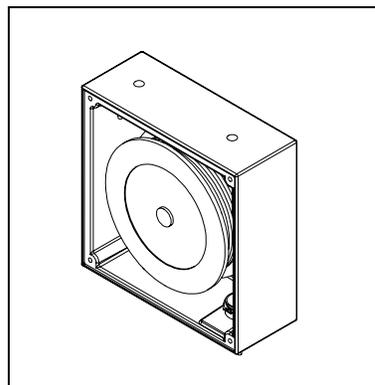

Figure 1
1. Remove the two sheet metal screws holding the metal cover to the retractor housing, saving the two sheet metal screws for later use. (See Figure 1.)